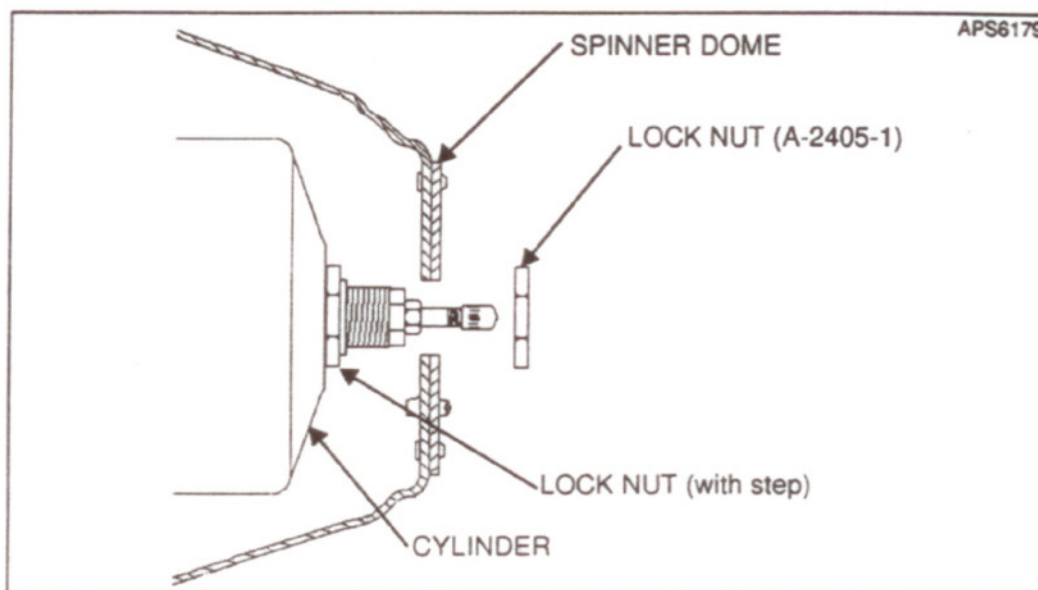

Figure 306 - Two-Piece Spinner Mounting (Procedure 1)
Spinner lock nut (see Figure 306, 307)	15-20 ft-lbs (20.3-27.1 N•m)*
NOTE 1: A spinner dome which is to be installed using Procedure 1 may be identified by the lock nut at the top of the cylinder. The lock nut will have a "step" facing away from the cylinder as illustrated in Figure 306.
- (1) Refer to Figure 306. Install spinner dome. Push spinner dome toward the bulkhead to align the spinner mounting holes with those of the bulkhead. Secure the spinner to the bulkhead or adapter ring with screws and washers.
- (2) Install the lock nut on the low pitch stop. Refer to Table 301 for lock nut torque.
- (3) Safety wire the lock nut to each of the two screws on the flat face of the spinner dome surrounding the lock nut.
- (4) Secure the spinner dome cap to the spinner dome with flat head screws. To avoid damaging the aircraft cowling, screws must not extend more than three threads past the bulkhead nutplates.